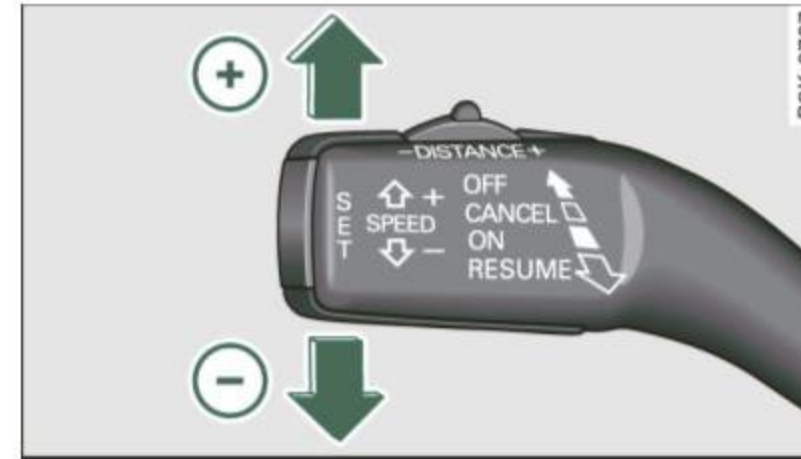

Fig. 125 Control lever: Changing speed
- Press the lever **briefly** upwards (+) ⇒ fig. 125. USA models: the speed increases by about 2.5 mph. Canada models: speed will increase by one mark on the speedometer scale.